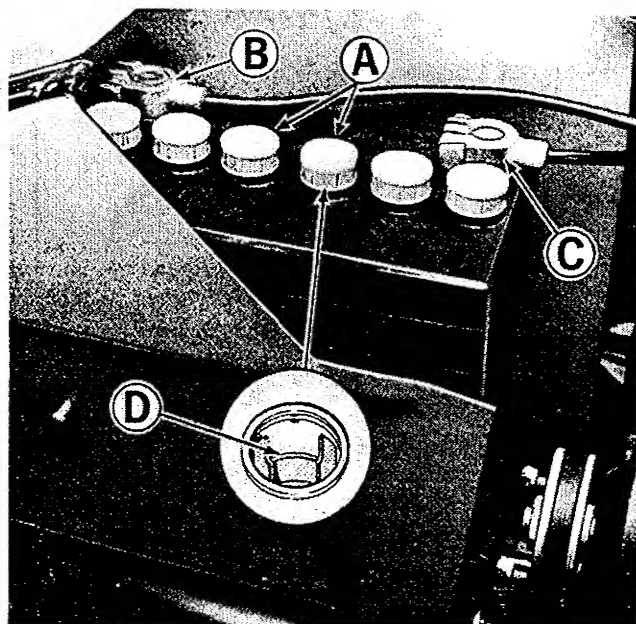

Figure 30. Tractor battery visible when hood is raised.
CHECK BATTERY WATER LEVEL: See figure 30. Every 25 hours, or more often when operating the tractor in temperatures above 72°F, remove the 6 battery caps (A)
and check the water level in each cell. When the battery is in use, water evaporates from it. Never allow the water level in the battery to get below the top of the plates. Fill the battery to the marking ring (D) with distilled water as shown in figure 30. If distilled water is not available, clean tap water may be used.
CLEAN BATTERY CABLES: See figure 30. Every 100 hours or once a year the battery cables (B) and (C) should be removed and cleaned. **CAUTION:** ALWAYS REMOVE THE NEGATIVE "GROUND CABLE" (C) FIRST AND REPLACE IT LAST. Clean the battery with soap and water to remove all dirt, oil, and corrosion from the battery surface. Do not allow foreign material or cleaning solution to get inside the battery. Clean the terminals and battery clamps with a wire brush. Replace and tighten securely. After tightening coat the terminals and clamps liberally with a coat of grease or vaseline to inhibit corrosion.